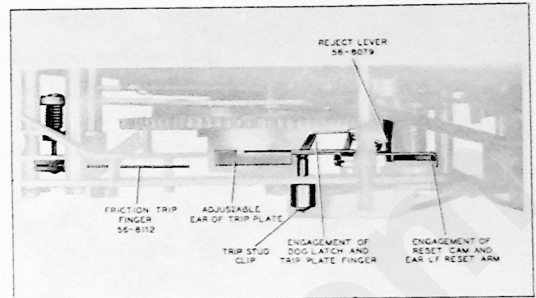
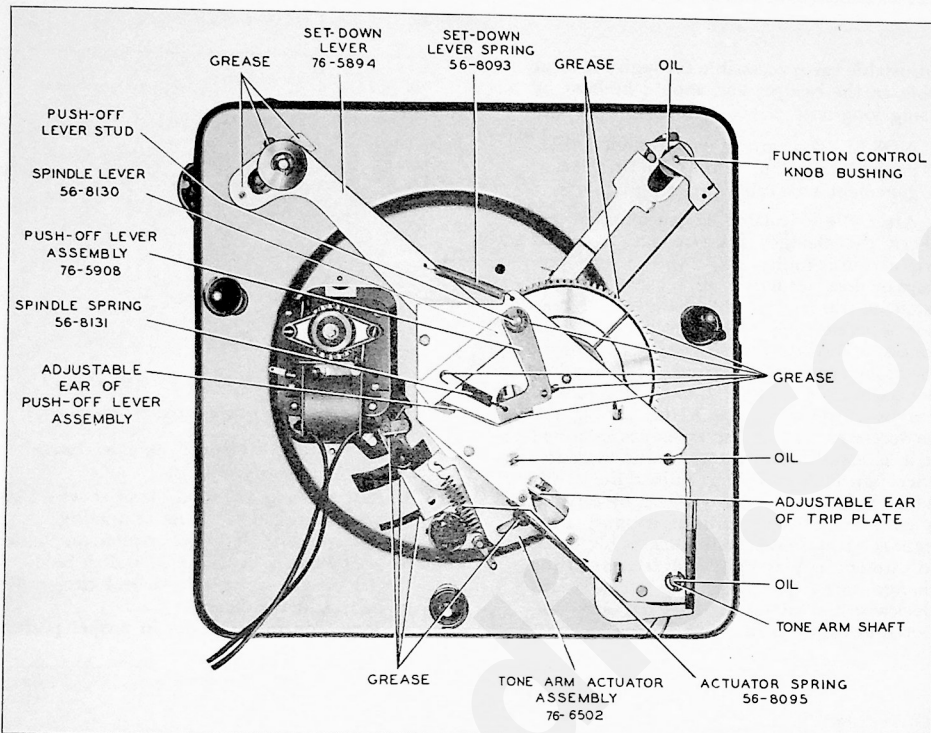

Figure 4. Trip Adjustment
Figure 6. Bottom View, Showing Lubrication Points
The proper trip action is greatly dependent upon the proper engagement of the dog latch and the finger of the trip plate supporting it. The correct engagement is $\frac{3}{64}$ inch (or approximately one-half the width of the supporting finger of the trip plate) when the ear of the reset arm is contacting the peak point of the reset cam. This is shown in figure 4. The extent of this engagement is adjustable by bending the ear of the trip plate, shown in figure 6. Bending the ear inward decreases the amount of engagement, and bending the ear outward increases the amount of engagement. This
4. Spindle. See figure 6.
- b. Remove "E" washer from push-off lever stud. See figure 6.